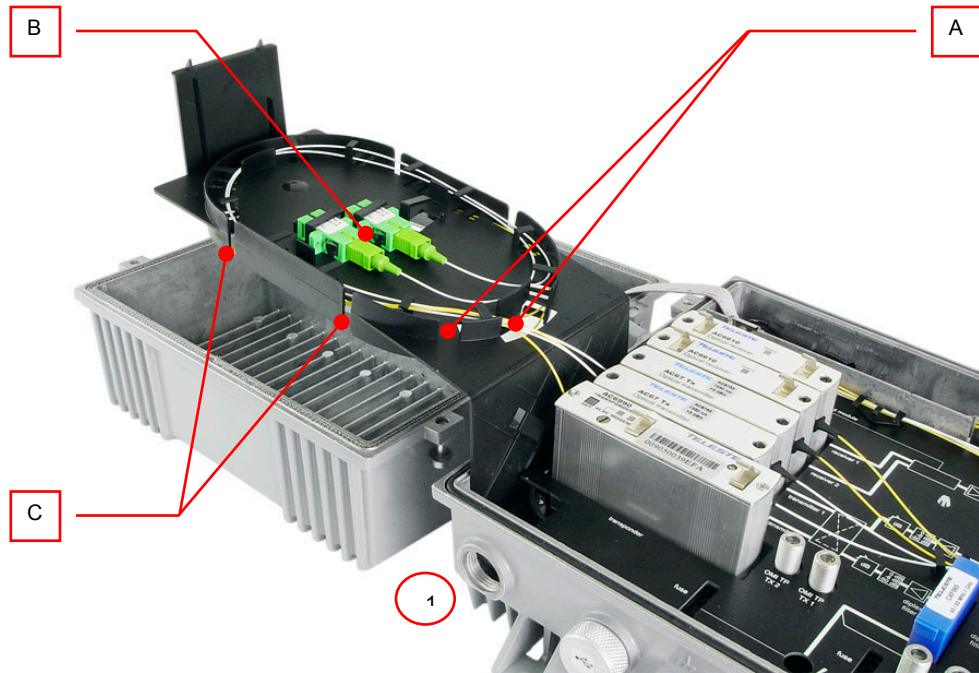

Figure 14. Routing fibres - typical configuration
The standard fibre management option offers an efficient double sided fibre organiser module, which accommodates six universal type connections ensuring compatibility with variety of existing connectors and adapters. With this option the outside plant fibre cabling is done through the base coupling (Figure 14 pos.1).
Carefully wind the fibres around the fibre tray noting the entry points for the installation fibre filaments and the fibre pigtailed (Figure 14 pos. A). Each fibre should be connected to its corresponding adapter (Figure 14 pos. B). The fibre organiser tray is equipped with slots (Figure 14 pos. C) for fibres to be routed on either side of the fibre tray. The under side of the fibre tray is reserved for fibre pigtailed of return units and the upper side for fibre pigtailed of forward units.